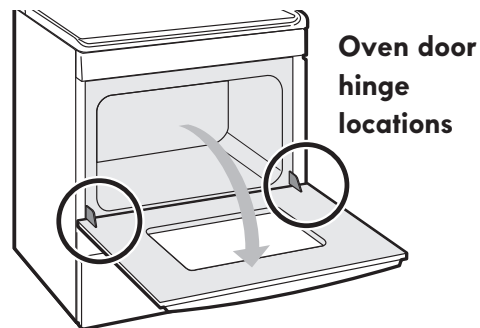

Figure 20: Oven hinge locations
1. Open oven door completely, horizontal with the floor (See Figure 20).
3. Fully open the oven door, horizontal with floor (See Figure 20).